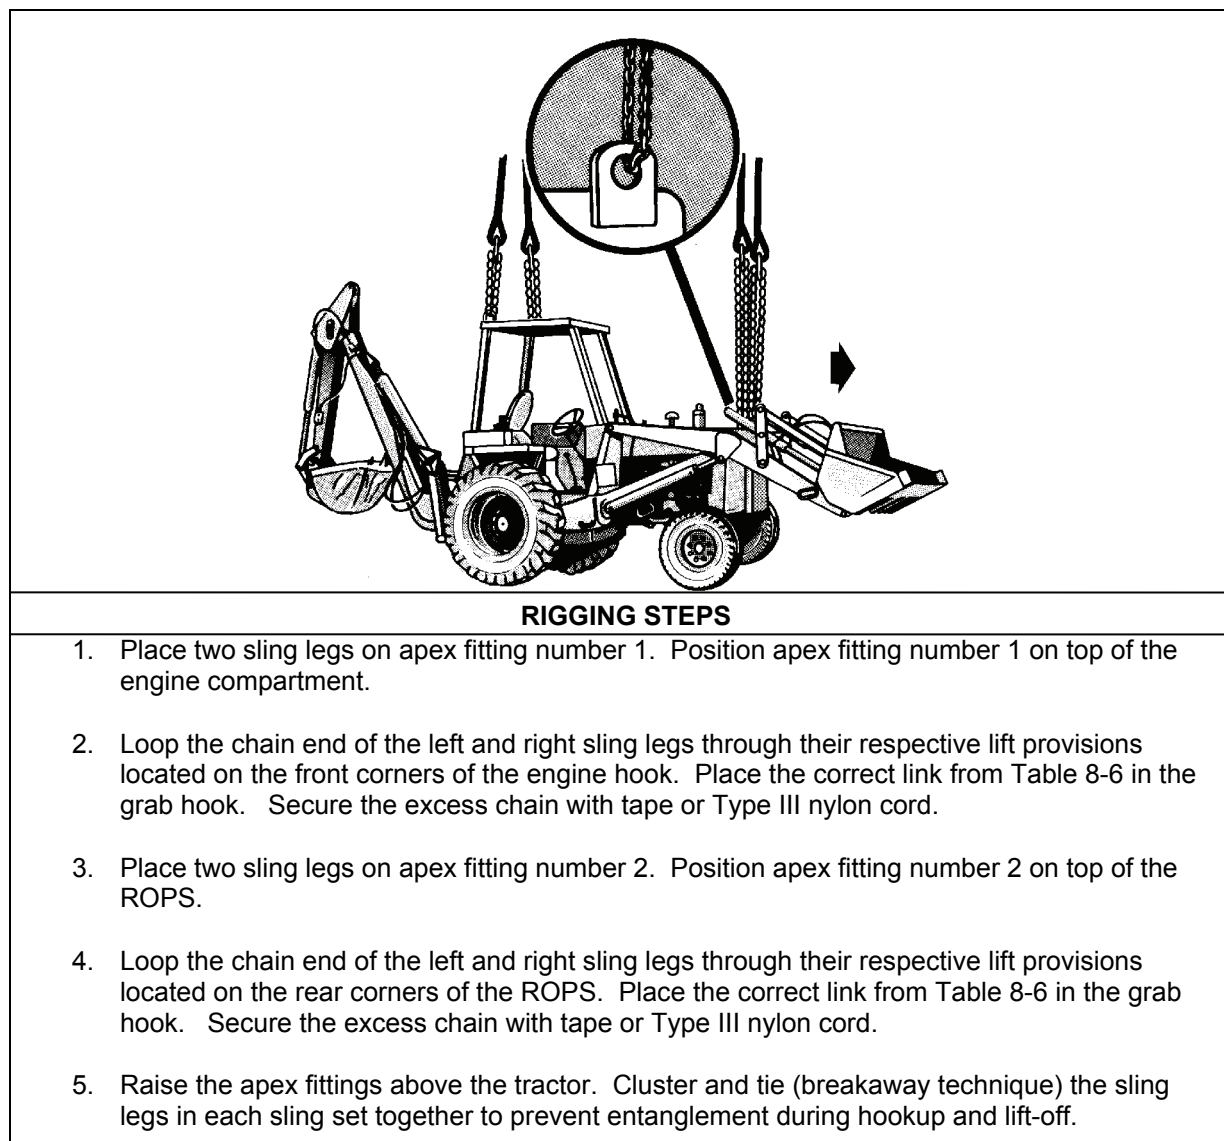

Figure 8-6. Tractor, Wheeled, Industrial, Case Model 580
- **Rigging.** Rig the load according to the steps in Figure 8-6.